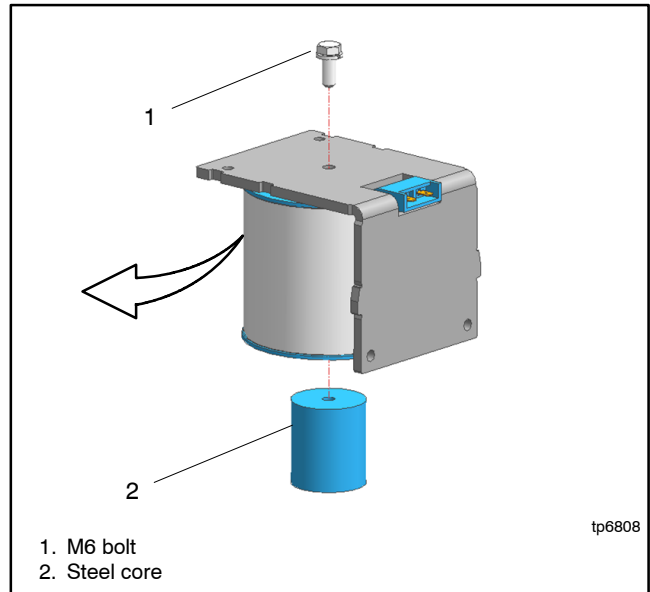

Figure 7-35 Coil Removal
3. Remove the M6 bolt holding the steel frame and the steel core. Remove the coil from the steel frame. See Figure 7-35.